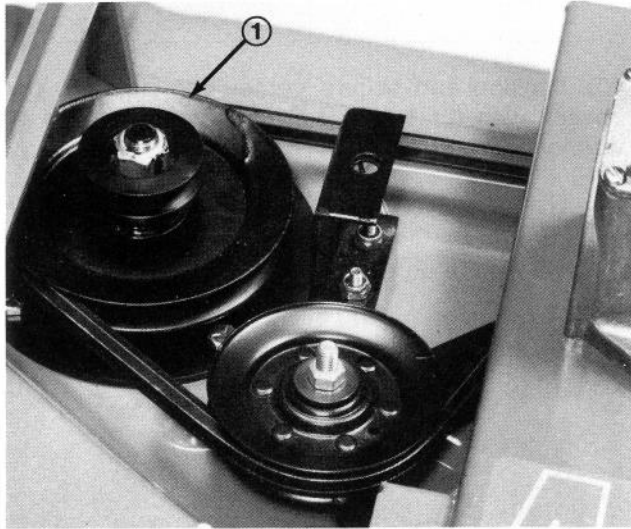

Figure 2
5. Two double-groove pulleys are supplied with the kit. Install the Double "D", double-groove pulley and original mounting nut on cutting units with serial numbers below 90001. On cutting units with serial numbers 90001 and above, install the splined, double-grooved pulley and a new nut. Torque nut to 50–60 ft. lb. (Fig. 2).
6. Install deck belt around large pulley (Fig. 2).